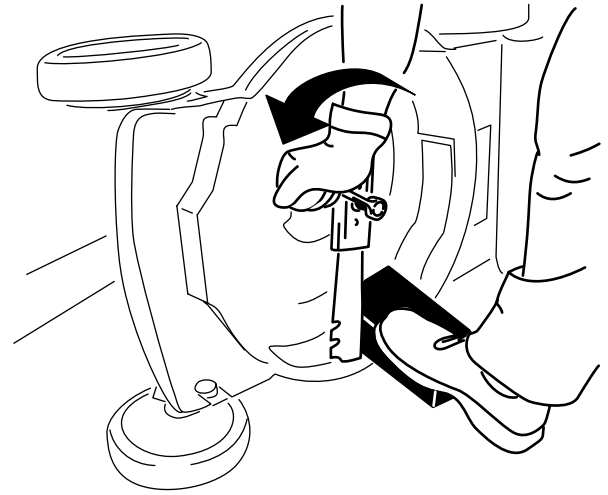

Figure 21
- Use a block of wood to hold the blade steady (Figure 21).
- Remove the blade, saving all mounting hardware (Figure 21).